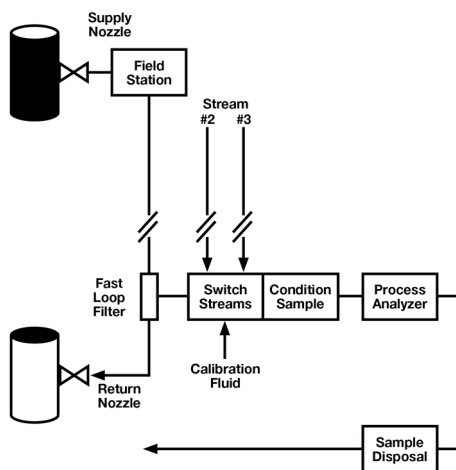

Figure 1. Basic sections of a process analyzer sampling system.
Delay may occur in any of the major parts of an analytical instrumentation (AI) system (Figure 1), including the process line, tap and probe, field station, transport line, sample conditioning system, stream switching system, and analyzer.